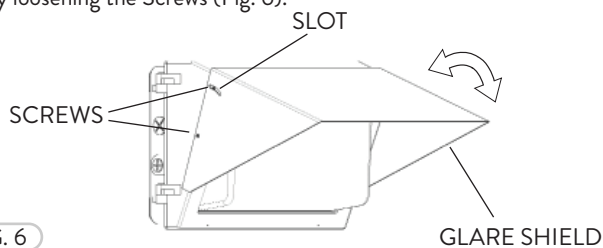

FIG. 6
- 2 The Glare Shield can be tilted slightly along the curved slots as needed by loosening the Screws (Fig. 6).